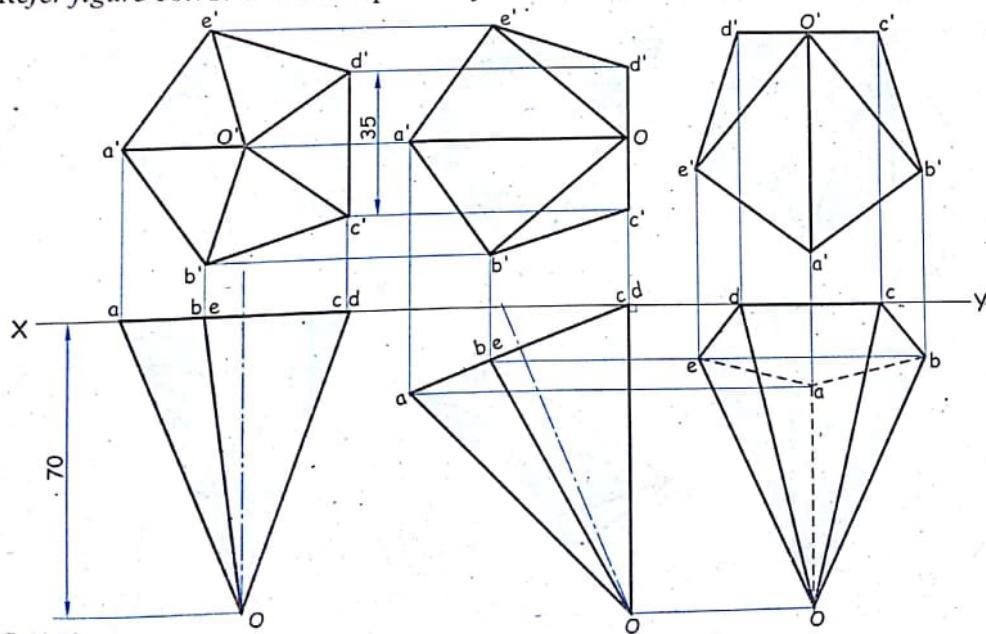

FIG. 10.72
**Solution :** Refer figure 10.72. It is self explanatory.